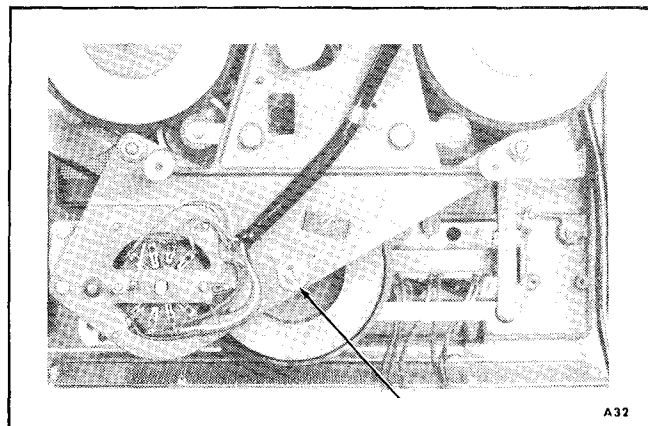

Figure 5-3. Capstan Thrust Adjustment
**5.10 CAPSTAN THRUST** (See Figure 5-3)